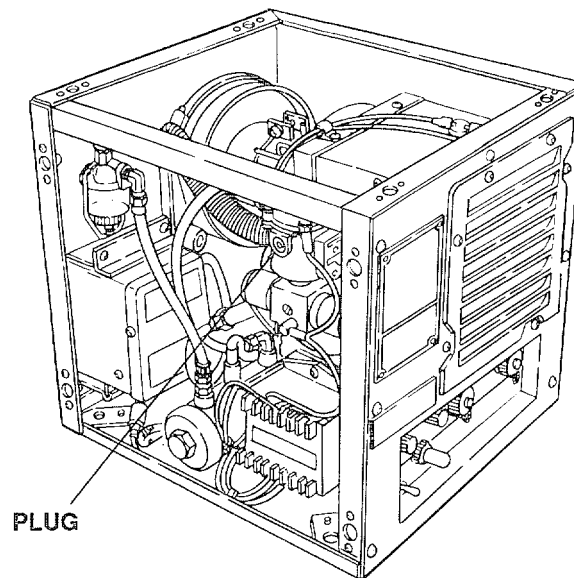

Figure 4-23. Carburetor Float Bowl.
- g. Remove the plug (Figure 4-23) from the carburetor float bowl. Tip the heater sideways and drain fuel from carburetor float bowl into a container.